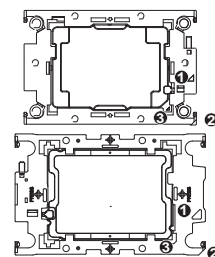

Figure 1
2. Install the processor first with the plastic carrier. Align the golden color triangle mark with the hollow triangle mark on the carrier, then align the key on the processor IHS cover and side, push the processor and confirm the 4 clips securely locked (Figure 1 & 2)